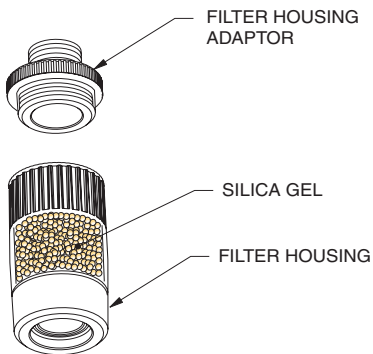

Fig. 12.5 Filter Housing Adaptor Removal
- 3) If the silica gel is to be replaced, make sure that the filter assembly is positioned in the upright position as shown in Fig.12.5 then unscrew the filter housing adaptor in a counter clockwise direction to remove.
- 8) Attach filter adaptor to filter housing, in a clockwise direction, then tighten to secure. See Fig. 12.5.